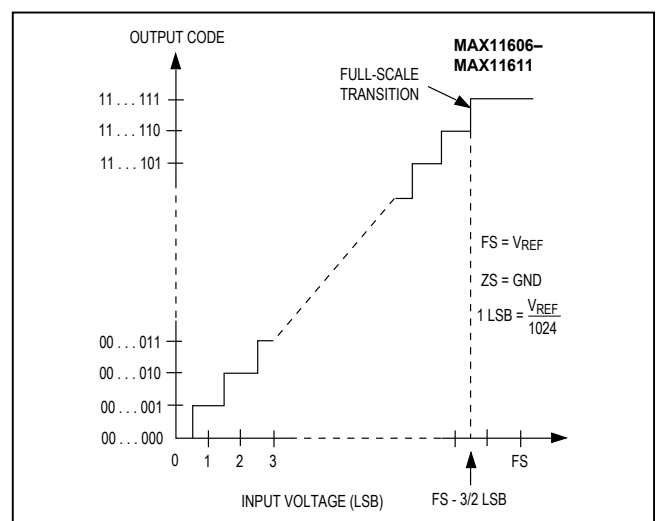
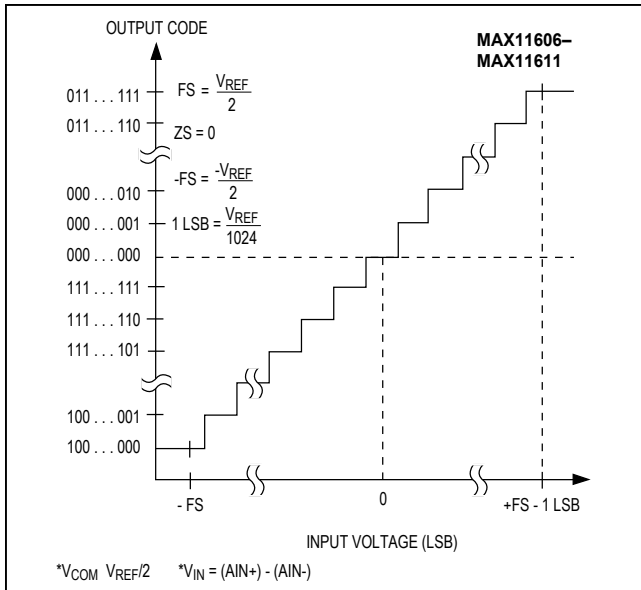

Figure 12. Unipolar Transfer Function
Figure 13. Bipolar Transfer Function
Output data coding for the MAX11606–MAX11611 is binary in unipolar mode and two’s complement in bipolar mode with 1LSB = (V_{REF}/2N) where N is the number of bits (10). Code transitions occur halfway between successive-integer LSB values. Figure 12 and Figure 13 show the input/output (I/O) transfer functions for unipolar and bipolar operations, respectively.